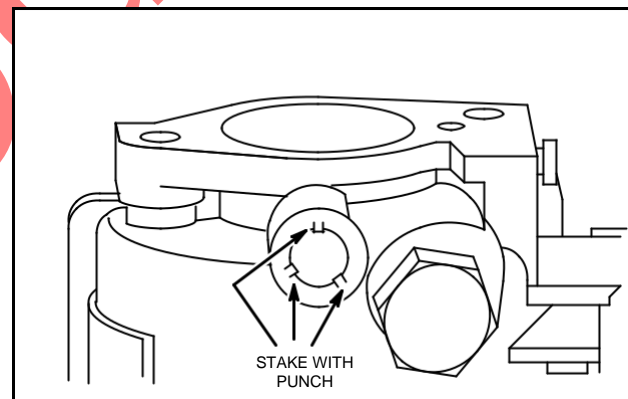

Fig. 22 – Install Plug
9. Stake in three places around plug with 1/8" (3 mm) punch, Fig. 22.